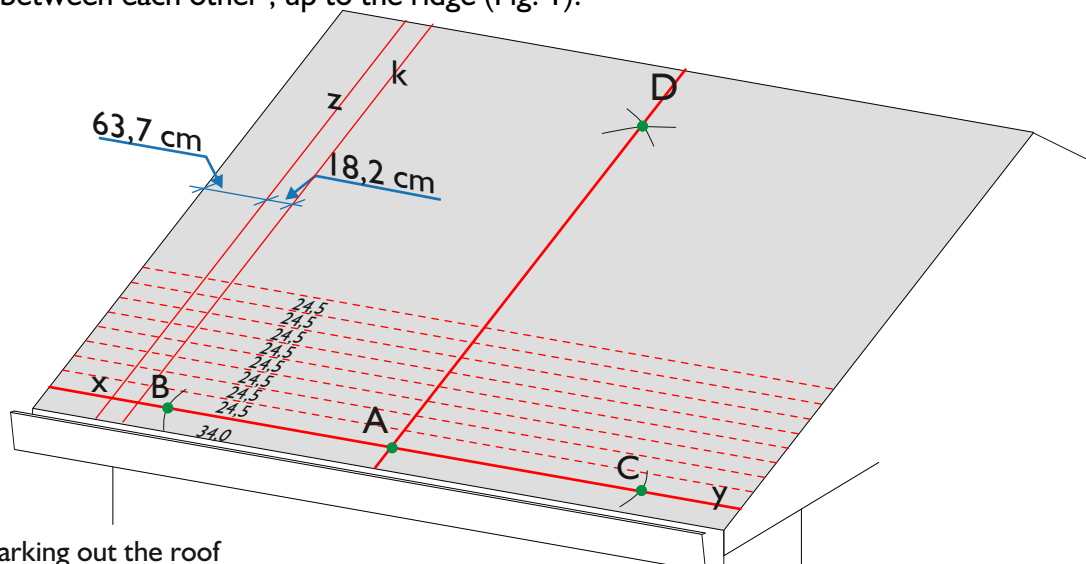

Fig. 1 - Marking out the roof
- Starting from the line xy, mark horizontal lines, parallel to the line xy, at a distance of 24,5 cm (9" 11/16) between each other , up to the ridge (Fig. 1).